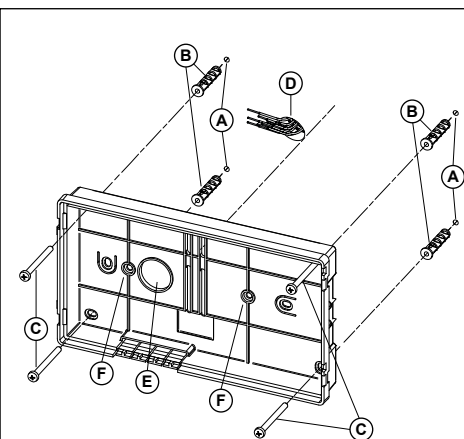

Fig. 3
2. Put the base of the unit on the wall at approx 135cm from the finished floor to match the points for the fixing holes "A" (**Fig. 2**) remembering that the wires "D" (**Fig. 3**) must be fed through the large hole "E" (**Fig. 3**). If you use the flush mounting box 503, embed it into the wall vertically at approx. 140cm from the finished floor and the base.
3. Following **Fig. 3**, make the holes "A", insert the wall plugs "B" and fix the base with the screws "C" feeding the wires "D" through the hole "E". If you have used the box 503, fix the base to the wall through the holes "F" using the screws "C".